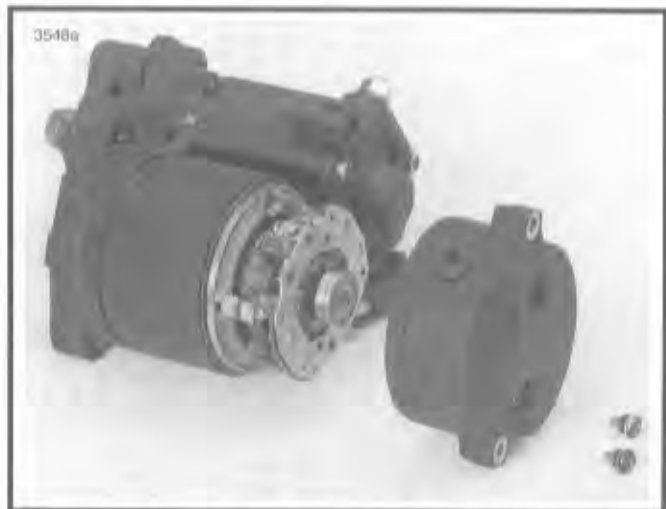

Figure 5-10. Removing End Cover
3. See Figure 5-10. Remove two cover screws. O-rings, and cover.